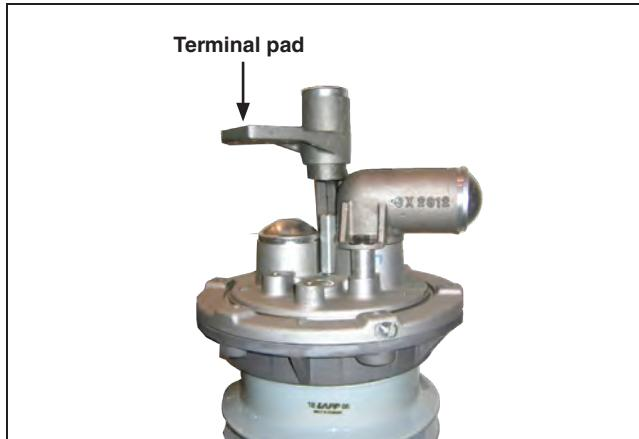

Figure 20. Attaching the terminal pad. Shown with option “-N” enhanced-visibility low-pressure indicator.
STEP 7. Attach the upper terminal pad using three $\frac{1}{2}$ -13×1 $\frac{1}{4}$ -inch hex-head stainless steel cap screws and Belleville washers. See Figure 20.